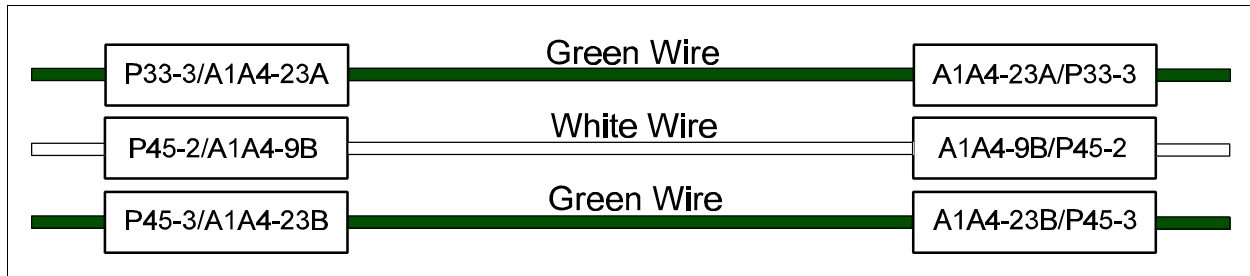

Figure 3 UPS Power Wires
13. From the FMK, cut the green wire in half. Using these wires and the white wire, apply wire markers as illustrated in figure 3.